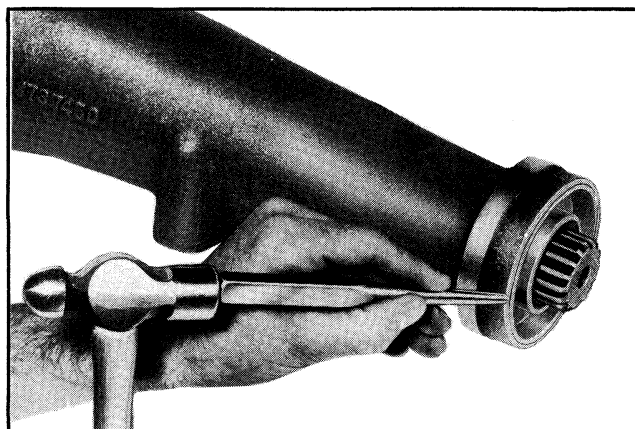

Fig. 7-12 Removing Extension Oil Seal
4. Using punch or other suitable tool (Fig. 7-12), loosen seal from extension and remove.